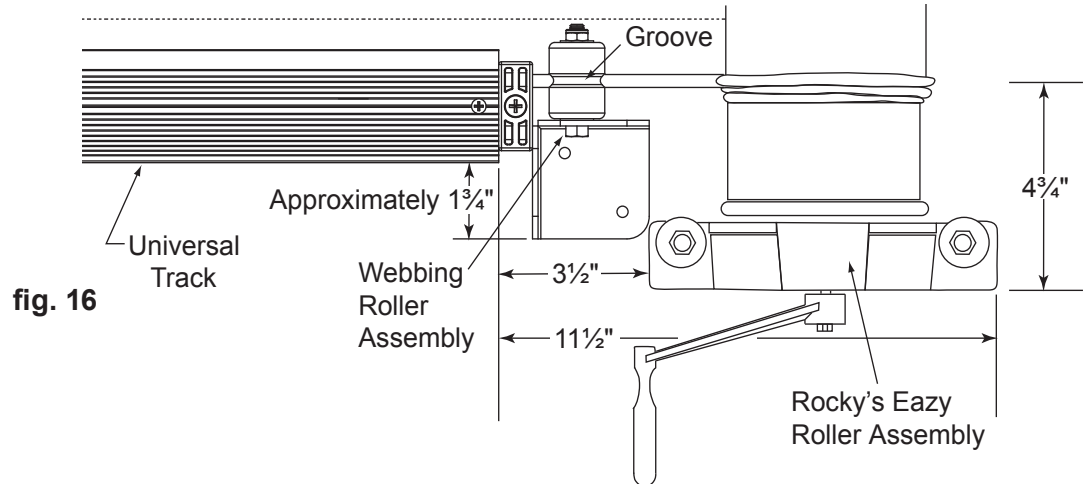

fig. 16
7.4 Install the webbing roller. (fig. 16)
7.5 Install the Rocky's Eazy Rollers. (fig. 16)